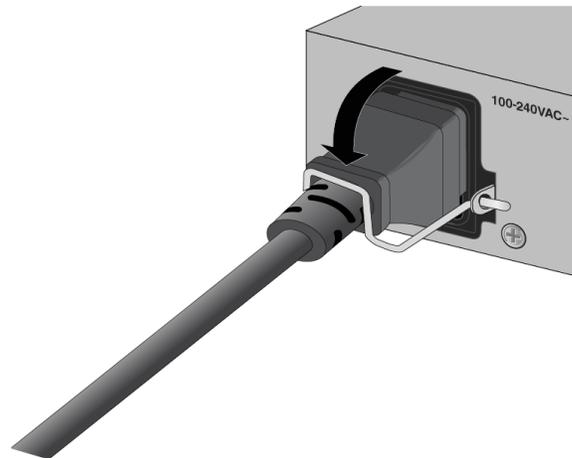

Figure 66. Lowering the Power Cord Retaining Clip
3. Lower the power cord retaining clip to secure the cord to the GS980EM/10H switch. Refer to Figure 66 on page 127.